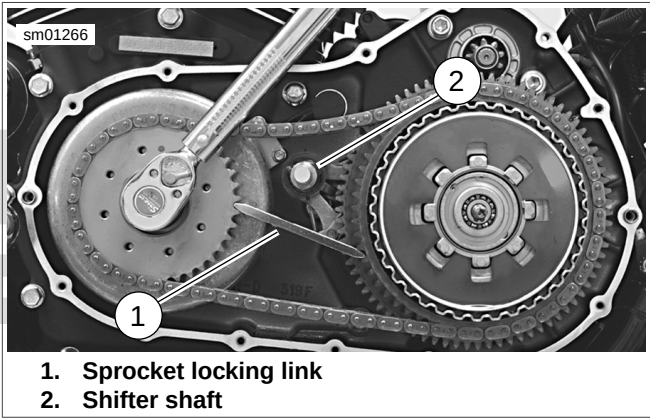

Figure 5-39. Tighten Engine Sprocket Fastener (typical)
See Figure 5-39. Make sure not to position the sprocket locking link (1) too close to the shifter shaft (2). If the sprocket locking link contacts the shifter shaft while you are exerting force to tighten the engine sprocket bolt, damage to the shifter shaft and/or the engine crankcase may result.
3. See Figure 5-39. Install SPROCKET LOCKING LINK (Part No. HD-38362) (1).